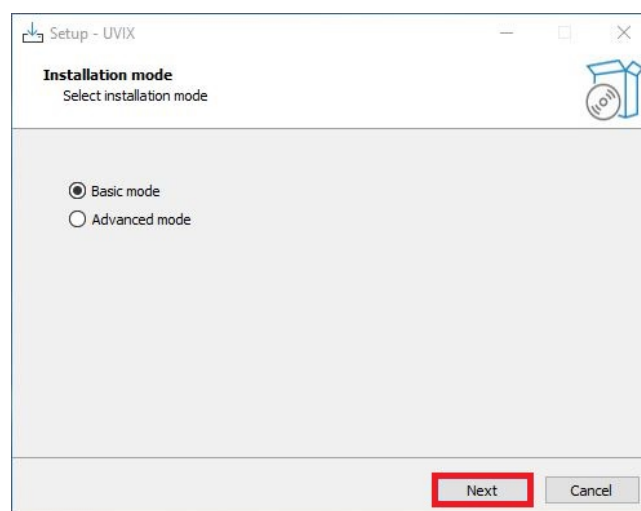

Figure 4.2: Mode selection
2. Select the "Basic" mode and click "Next," as shown in Figure 4.2.